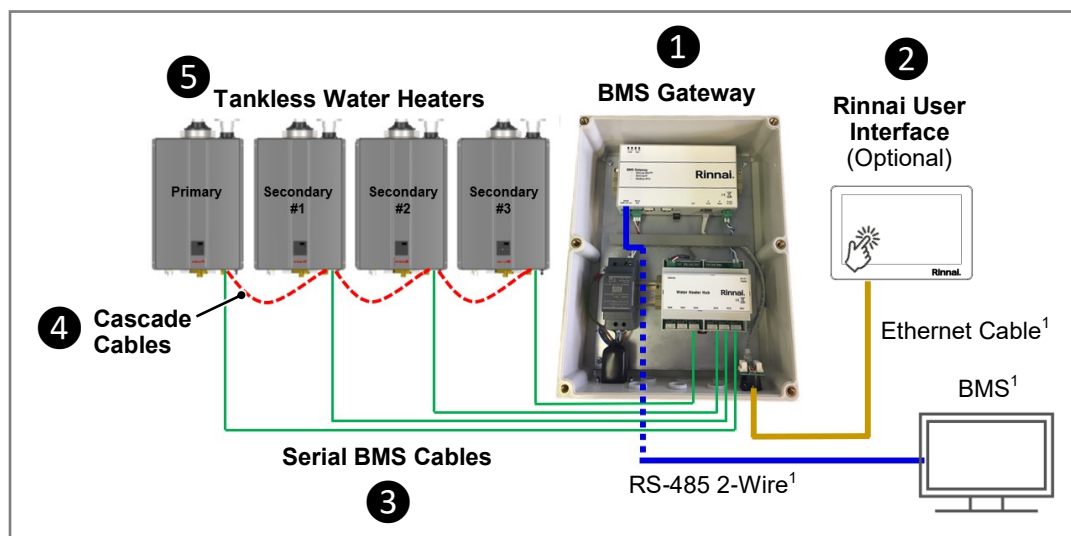

Fig 18. Example BMS Gateway Installation
Refer to Table 6 for part numbers of Rinnai components shown in an example BMS Gateway installation (Fig 18).
**Note:** In Fig 18 below, the BMS Gateway (indoor model) front cover is removed for display purposes.